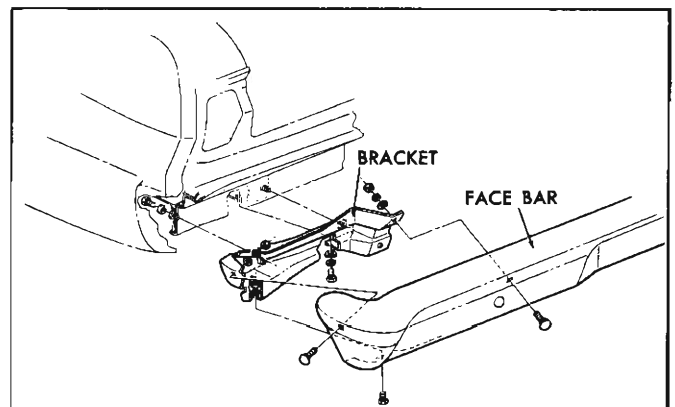

Fig. 7—Rear Bumper Assembly—Chevy II
### REAR BUMPER ASSEMBLY (Fig. 7)
1. Position brackets on face bar as shown in Figure 7 and install mounting bolts; tighten nuts securely.